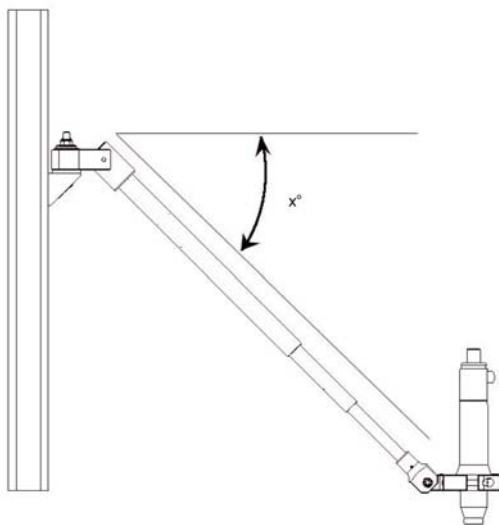

Fig 2
4. To maximize the dispersion of the torque reaction, respect the following angle positioning (see Fig 2).